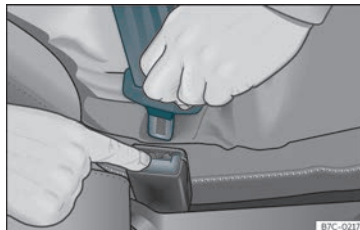

Fig. 14 Release the seat belt's buckle.
Only unfasten the seat belt when the vehicle has come to a standstill »» **Fig. 14.**
- Press the red button on the buckle »» **Fig. 14.** The latch plate is released from the buckle.